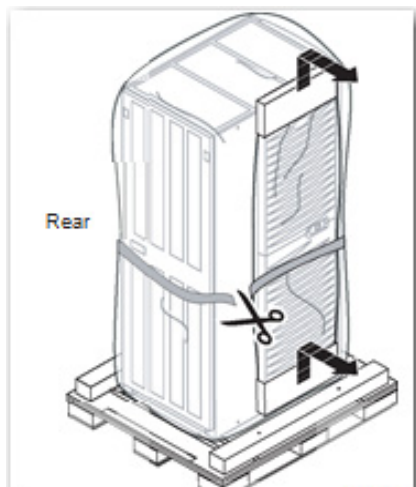

Figure 12 Removing the plastic covering from the rack
1. Remove the plastic covering from the cabinet (Figure 12).